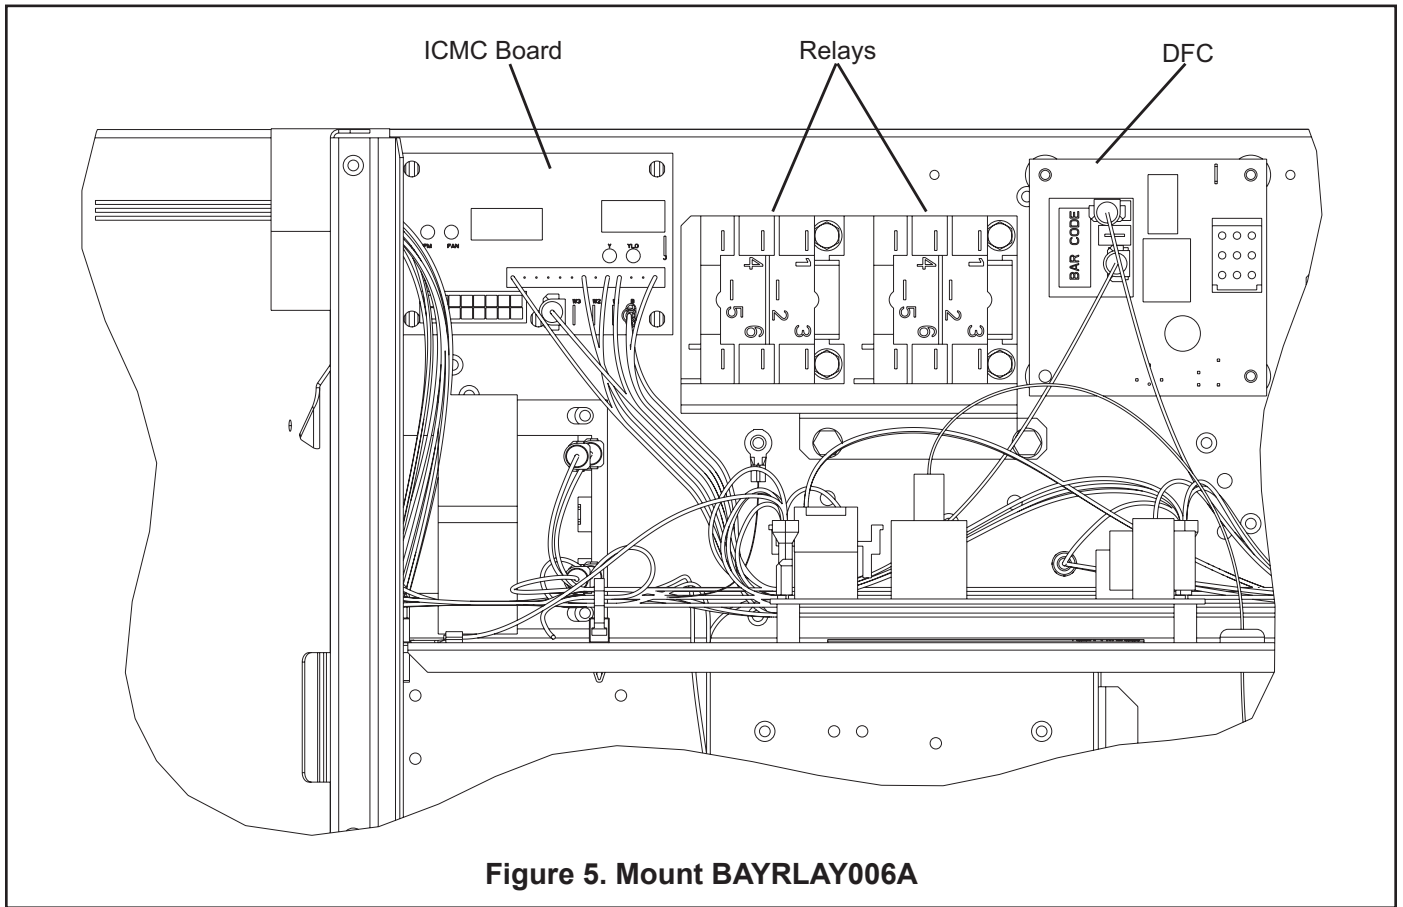

Figure 5. Mount BAYRLAY006A
2. Locate the ICMC Board in the upper left hand corner of the unit control box and the DFC board in the upper center of the unit control box. See Figure 5, page 5.
3. Using the existing holes in the back of the unit control box, mount the relay bracket assembly using the 2 screws supplied with the BAYRLAY006A Kit. See Figure 5, page 5.